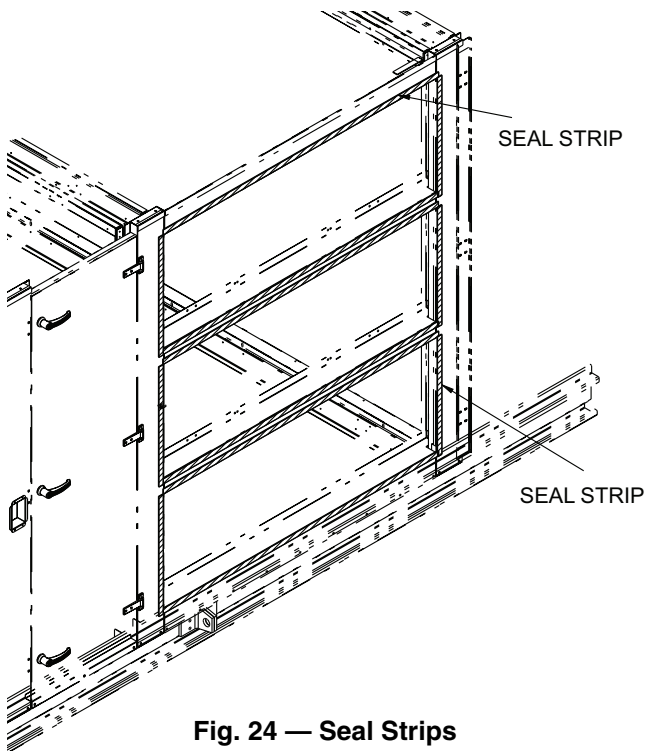

Fig. 24 — Seal Strips
4. Apply seal strip to the unit. Strip should extend around entire opening (see Fig. 24).
2. Apply seal strip to the unit around the damper openings. See Fig. 24.